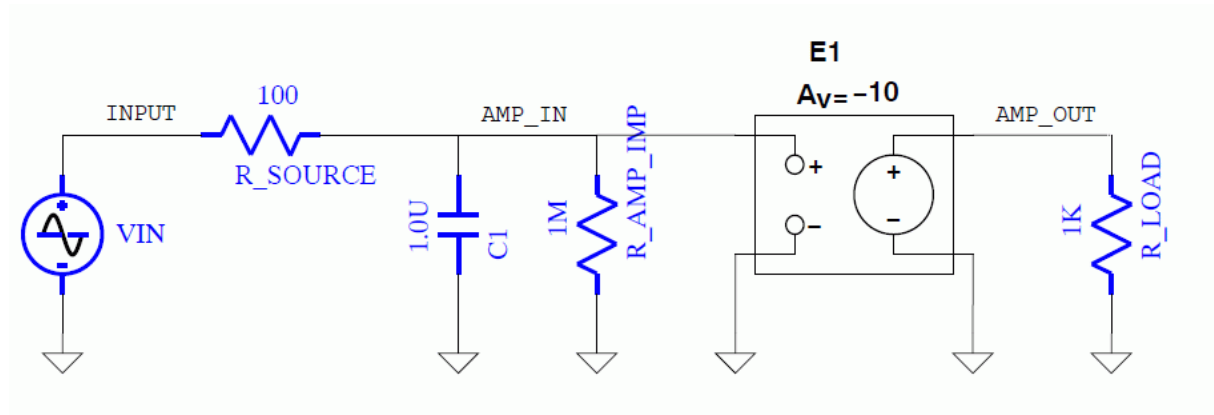

Figure 26.1: Example Circuit 1
circuit device, and the definition of the significant parameters for each device. For example, the circuit description below shows the equivalent input file for the circuit shown in Fig. 26.1.
**Subcircuits** In some applications, describing a device by embedding the required elements in the main circuit file, as is done for the amplifier in Fig. 26.1, is not desirable. A hierarchical approach may be taken by using subcircuits. An example of a subcircuit statement is shown in the second circuit file: